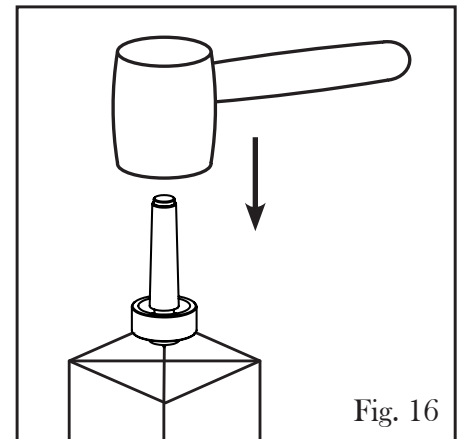

Fig. 16
MOUNTING THE WORKPIECE BETWEEN SPINDLES (Fig. 16 & 17)
3. Drive the spur center about .1 inches (3 mm) into the workpiece using a wood mallet or dead blow hammer (Fig. 16). Be careful not to split the workpiece. Do not use a steel face hammer and **NEVER** drive the workpiece onto the spur center while it is mounted on the spindle of the lathe.